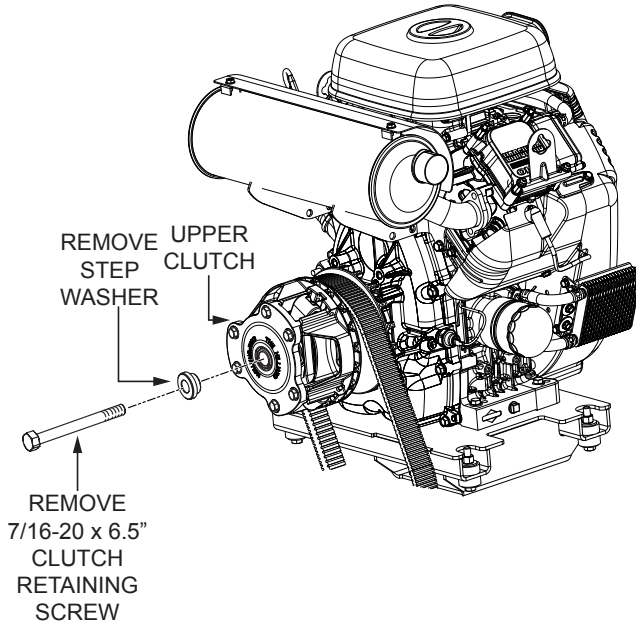

Figure 4. Upper Clutch Retaining Screw Removal
1. Using an 5/8" socket, remove the 7/16-20 x 6.5" clutch retaining screw and step washer (Figure 4) that secures the upper clutch to the engine shaft.